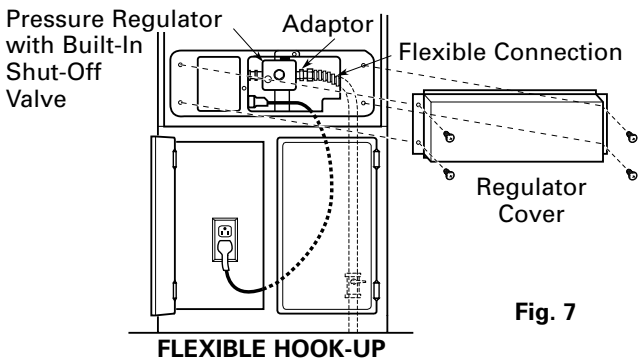

Fig. 7
1. The flexible connection and the adaptor (see Fig. 7).